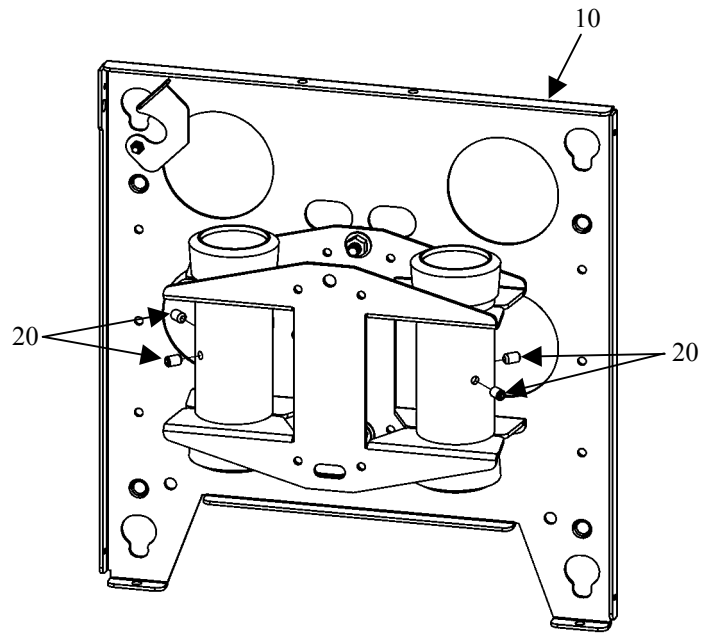

Figure 2. Assemble the PAC-142
1. Using the 5/32" Allen wrench (30), insert one of the four 5/16-18 socket head set screws (20) into one of the four threaded holes in the screen bracket in back of the PAC-142 (10) as shown in Figure 2.
2. Repeat Step 1 to install the remaining three 5/16-18 socket head set screws (20) in the PAC-142 (10).